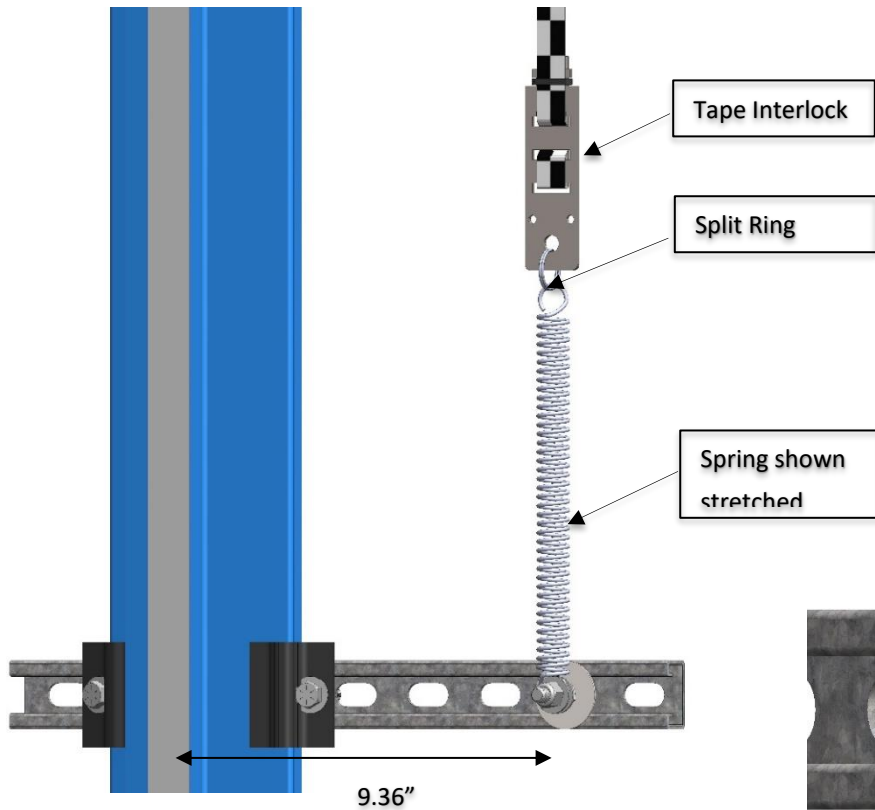

Figure 19: Lower Tape Installation
- Affix an 18" length of Unistrut to the bottom of guide rail as shown in figure 19.
- Position the Lower Tape Mount Assembly 9.36" from the surface of the guide rail to the center of the 3/8" bolt as shown in figure 19.
- Connect the spring to the Tape Interlock bracket using the Split Ring as shown below in figure 19.